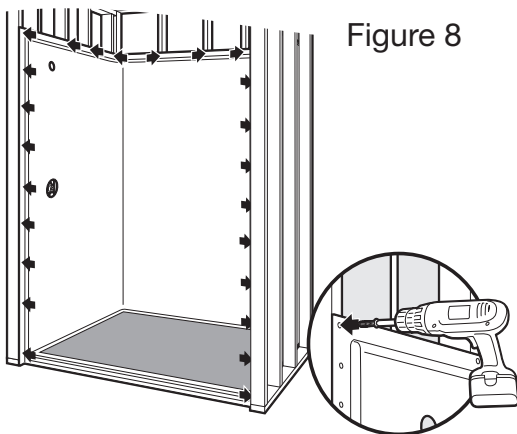

Figure 8
9. Pre-drill vertical nailing flanges starting from the floor and moving up every 8 inches. Pre-drill horizontal flange at each stud. Draw a line on the floor where the front of the threshold lies. Remove the unit from the alcove. **See Figure 8.** Note that your drawn line will mark the farthest reference for silicone sealant.
13. Fasten vertical nailing flanges to studs starting from the floor. Move upward every 8" (208mm). Fasten the horizontal nailing flanges at every stud. Use pre-drilled holes from step 9. See Figure 8.